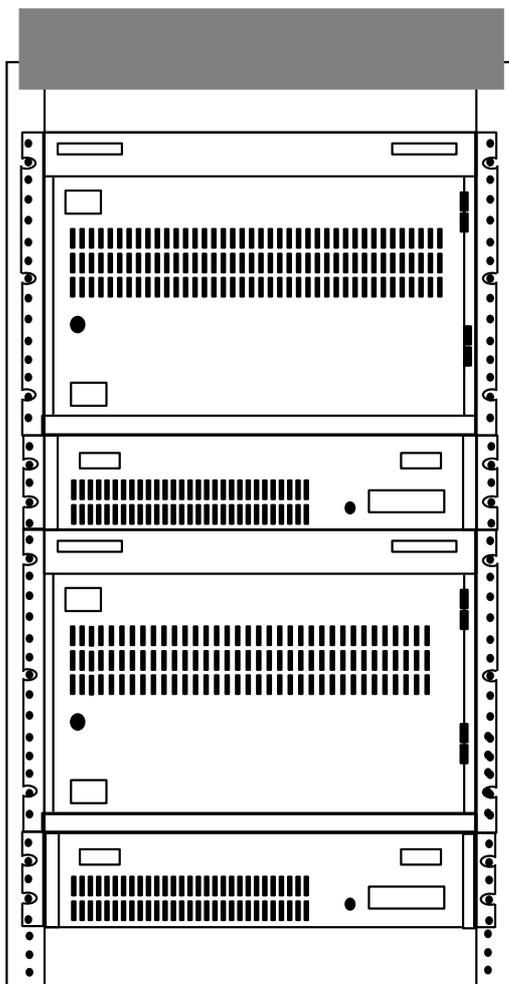

Figure 2-26. MAP/100C Units in a 5ESS Cabinet, Front View
1. Locate the left and right mounting ear brackets (A10039 and A10038) and attach them to the side plate of the unit as shown in Figure 2-26.
The 5ESS frame can hold one or two units, depending on the type of application (Figure 2-26).